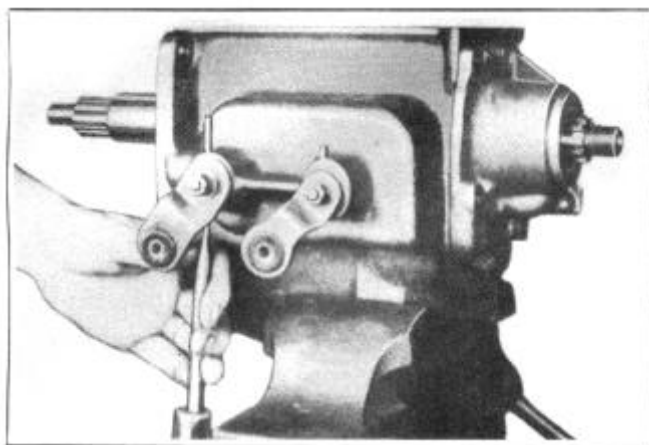

FIGURE 37
17. With a punch, drive taper pins securing shift shafts in position, upward out of case, Figure 37.